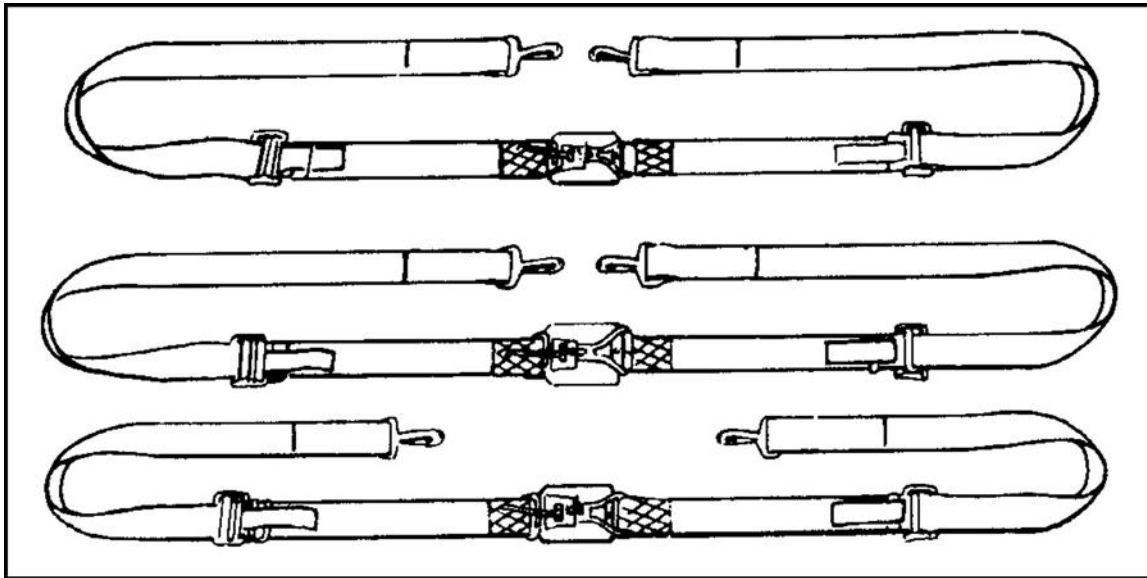

Figure 17-17. Modified C-3A troop safety belts.
a. The three modified C-3A troop-type safety belts, using the cargo floor tie-down fittings, restrain parachutists in groups of two and three by a single safety belt (Figure 17-17).